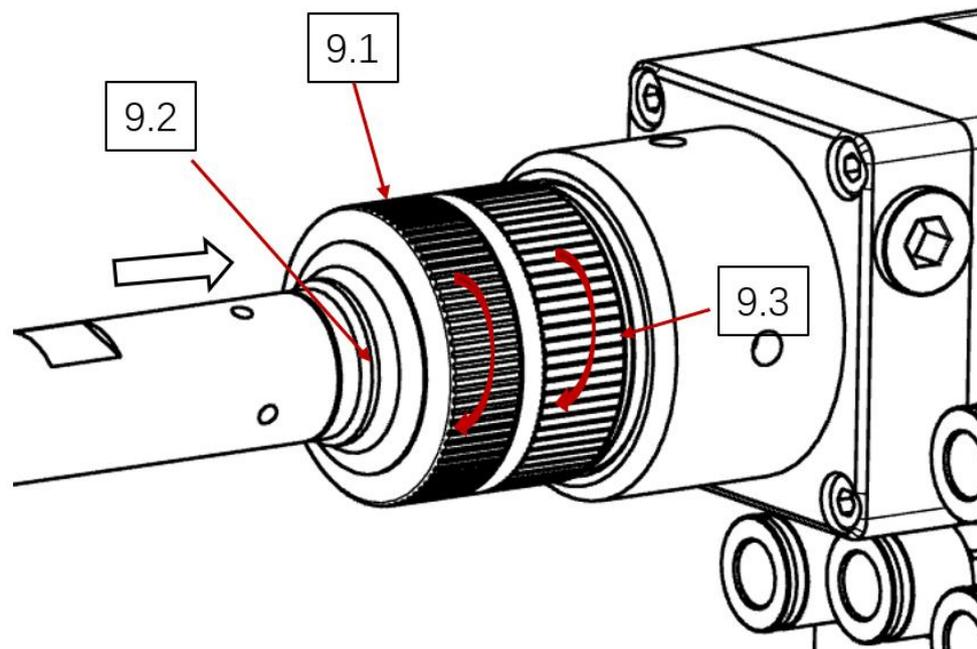

图 9.2
4. As shown in Figure 9.2, after inserting the fiber, first rotate 9.3 clockwise until it is fully